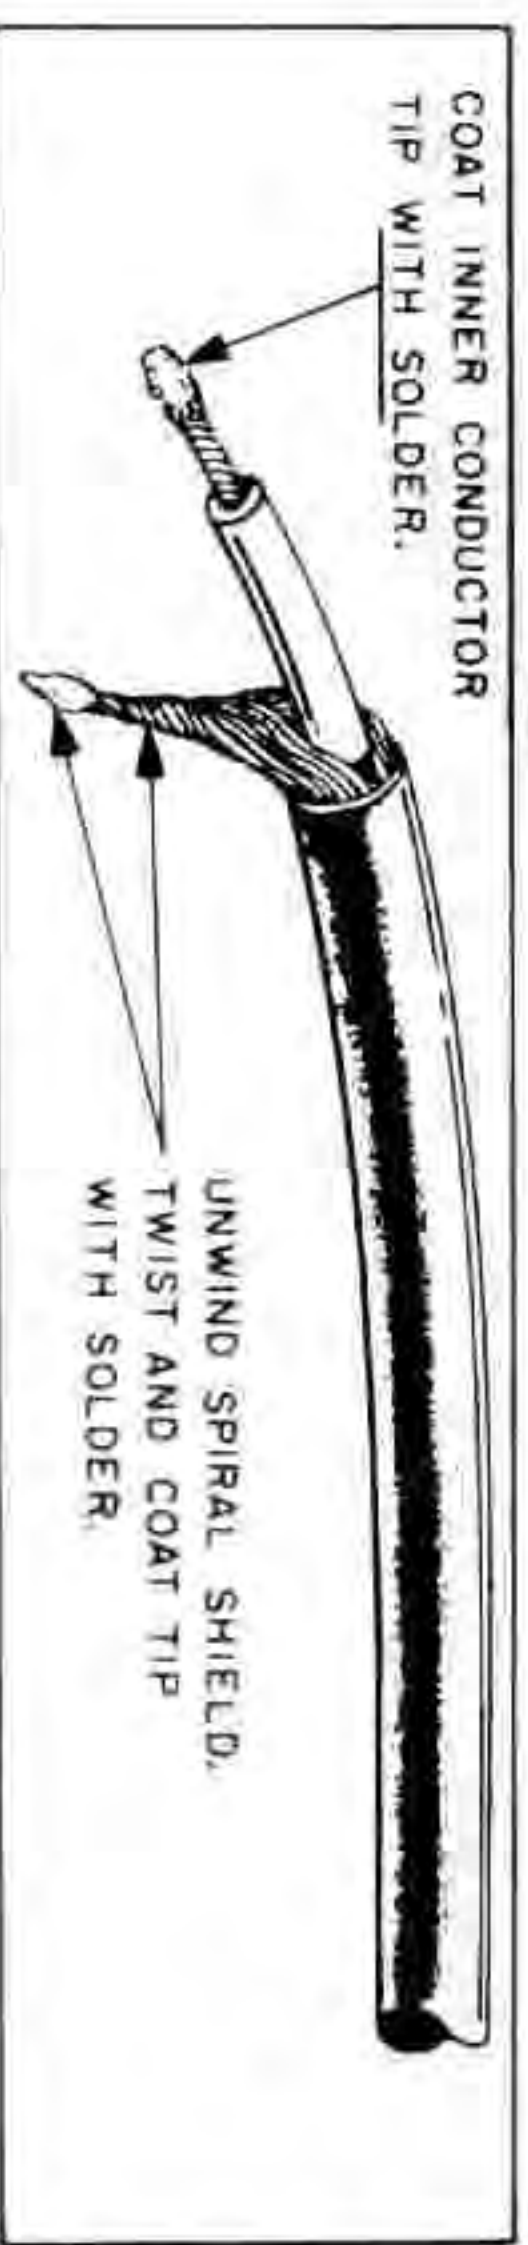

FIGURE 13. SHIELDED CABLE
- Shielded cable. The four shielded cables are pre-stripped for your convenience. Prepare each end of each shielded cable, as shown in Figure 13.